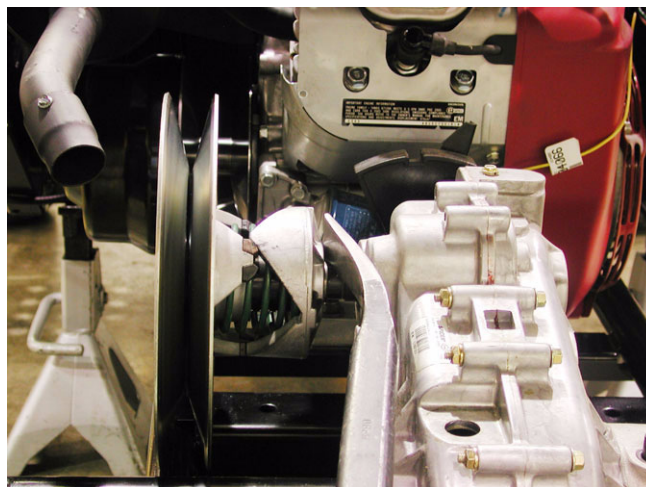

Figure 7.27
- 7.27. Carefully pry the driven pulley off of the shaft. See Figure 7.27.